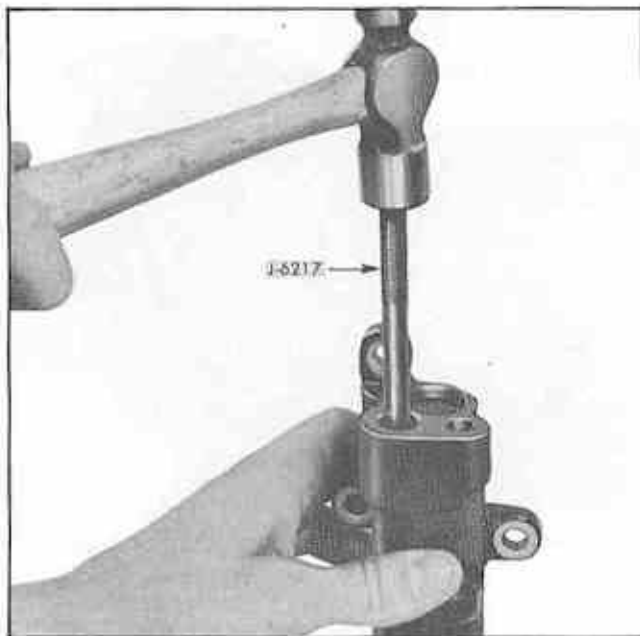

Fig. 45 Replacing Connectors
4. Replace connectors by using tool J-6217 and drive in place (Fig. 45).